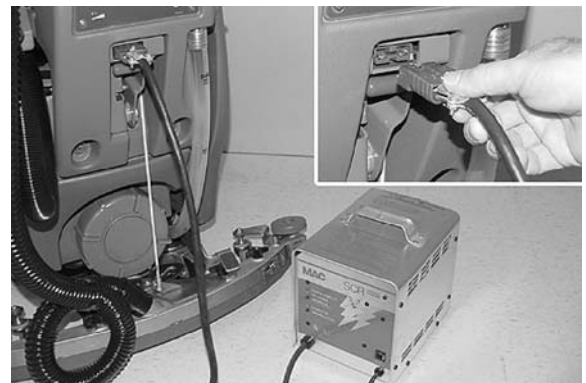

FIG. 48
11. Recharge the batteries after a total of 30 minutes of use or more (Figure 48). (See CHARGING BATTERIES).